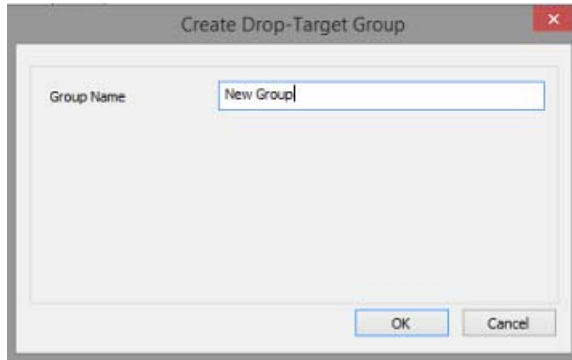

FIG. 217 Create Drop Target Group dialog
3. Enter a unique name for the new Drop Group in the *Group Name* field (FIG. 217):